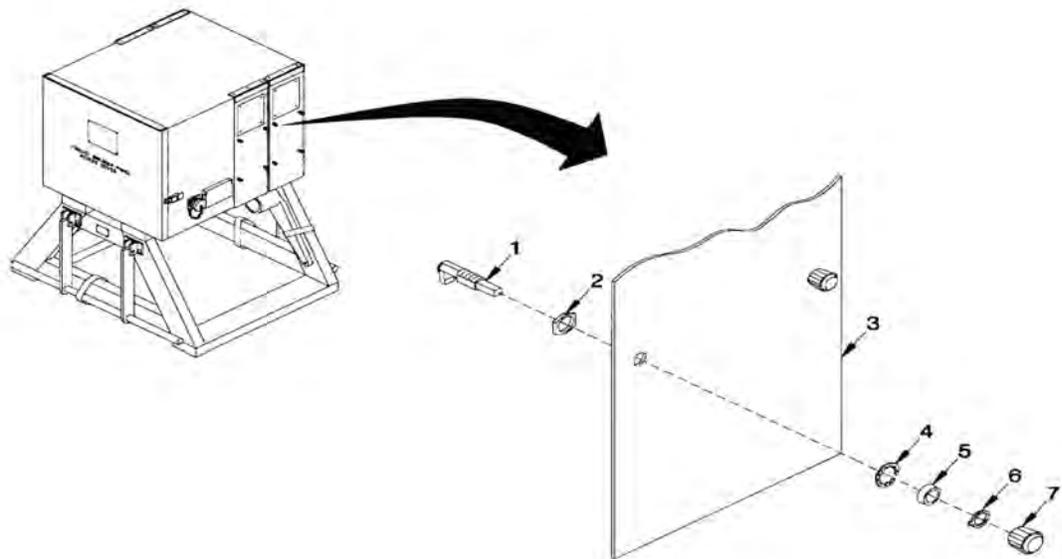
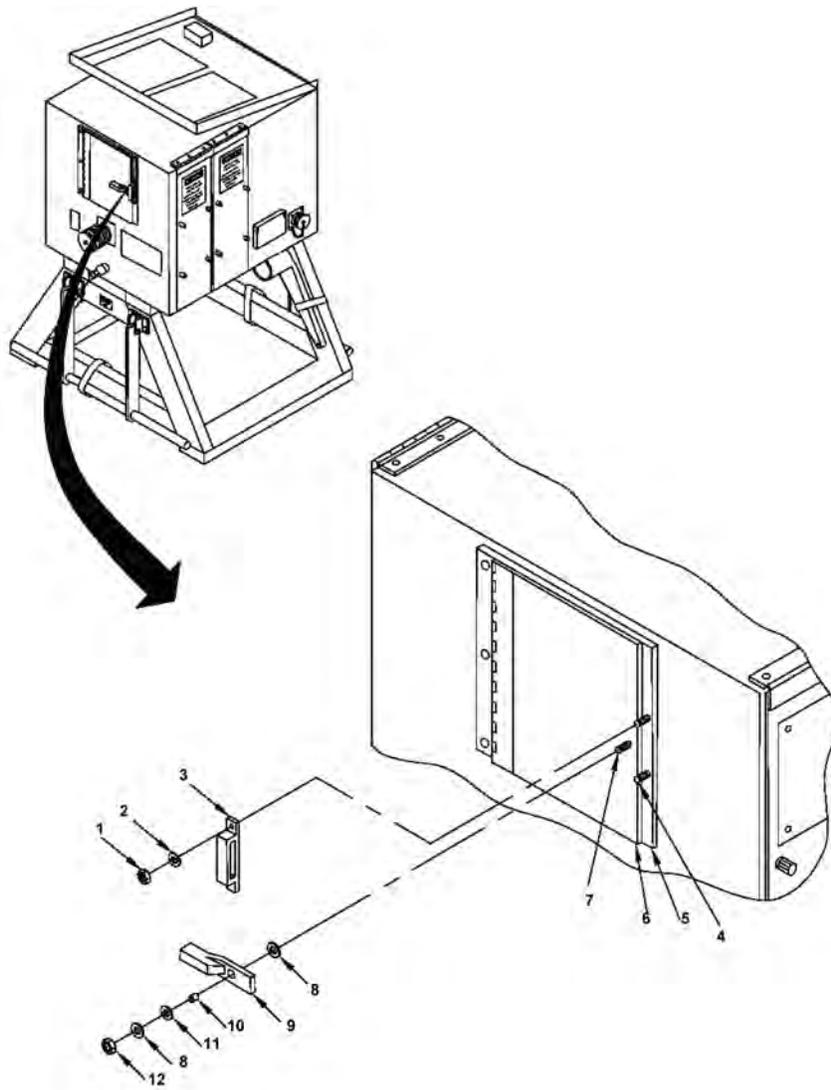

Figure 2. Terminal Post Safety Cap and Lanyard (2 Lanyard).
Figure 1. Rear Access Cover Latch and Keeper.
To remove and replace terminal post safety caps and lanyards, refer to Figure 2 and perform the following procedure:
1. Open circuit breaker panel access cover (Figure 2, Item 1) Circuit No. 4. Secure it in open position.
2. Remove terminal post safety cap (Figure 2, Item 7) from terminal post by grasping and pulling off.
3. Remove 5 inch lanyard (Figure 2, Item 4) or 7 inch lanyard (Figure 2, Item 3) from PDB by removing countersunk screw (Figure 2, Item 2), flat washer (Figure 2, Item 5) and locknut (Figure 2, Item 6). Retain hardware for installation of new lanyard.
4. To install a new safety cap (Figure 2, Item 7) and lanyard, position cap on terminal post and work cover on until secure.
5. Secure 5 inch lanyard (Figure 2, Item 4) and/or 7 inch lanyard (Figure 2, Item 3) from PDB by installing countersunk screw (Figure 2, Item 2), flat washer (Figure 2, Item 5) and locknut (Figure 2, Item 6).
6. Close side panel access cover (Figure 2, Item 1) and secure latch assemblies.
1. Remove two self-locking nuts (Figure 1, Item 1) and two flat washers (Figure 1, Item 2) from keeper studs (Figure 1, Item 4) on rear entrance panel (Figure 1, Item 5) and retain for later use.
2. Remove keeper (Figure 1, Item 3) from studs (Figure 1, Item 4) on rear entrance panel (Figure 1, Item 5).
3. Place keeper (Figure 1, Item 3) on studs (Figure 1, Item 4) on rear entrance panel (Figure 1, Item 5).
4. Place two flat washers (Figure 1, Item 2), and self-locking nuts (Figure 1, Item 1) on studs (Figure 2, Item 4) on rear entrance panel (Figure 1, Item 5). Tighten nuts (Figure 1, Item 1).